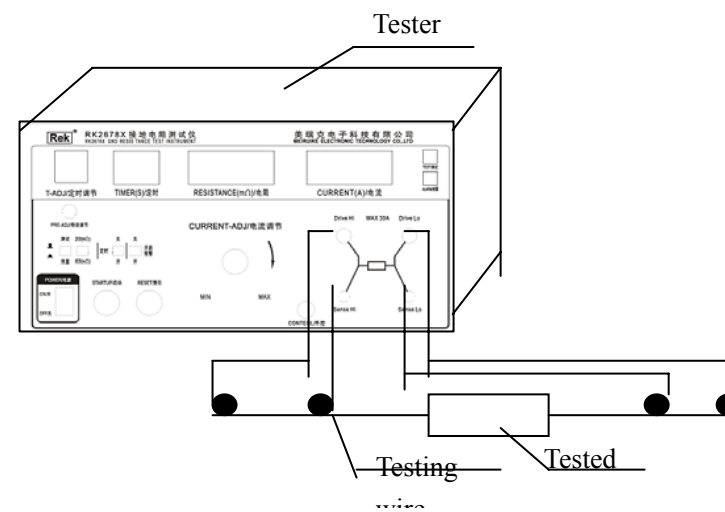

Fig. 3
2) Accurate test: complete wiring according to Fig. 3, and connect four-end testing line respectively to the tested appliance.
(8) This tester has optional function of open circuit warning. If the earthing circuit is open circuit or the testing clamp does not clamp the tested object, it can select whether to give out